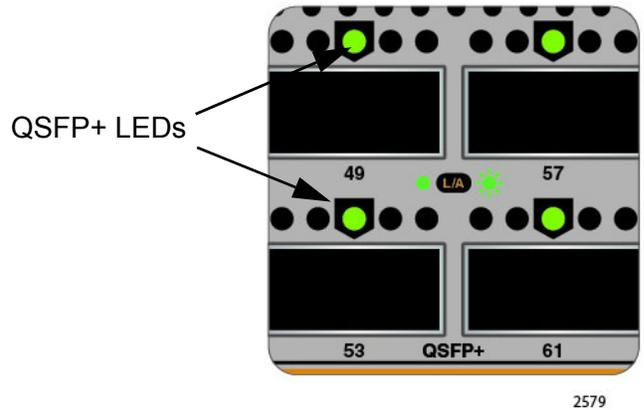

Figure 4. QSFP+ LEDs
- ❑ QSFP+ Slots - There are four QSFP+ slots which support communication speeds up to 40 GB. These slots are numbered 49, 53, 57 and 61. Each slot may be configured as one 40 GB port or 4 X 10GB ports in the management software. Refer to Figure 4 on page 24 for the location of these LEDs and Table 3 on page 24 for their functional description. Refer to “Installing QSFP+ Transceivers and Cables” on page 61 for installation instructions.
Each QSFP+ port has one link/activity LED labeled LINK/ACT. These LEDs are shown in Figure 4.